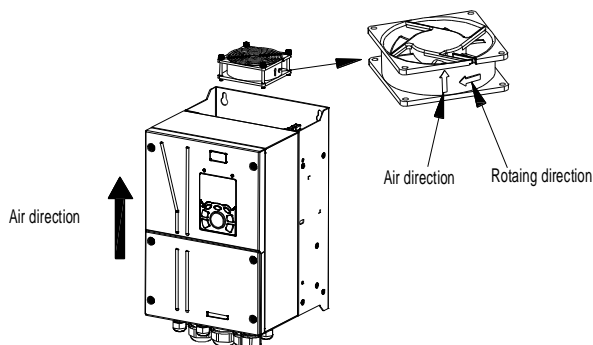

Figure 8-1 Fan maintenance for VFDs of 011P or higher
5. Install a new fan in the VFD in the reverse steps. Assemble the VFD. Ensure that the air direction of the fan is consistent with that of the VFD, as shown in the Figure 8-1.